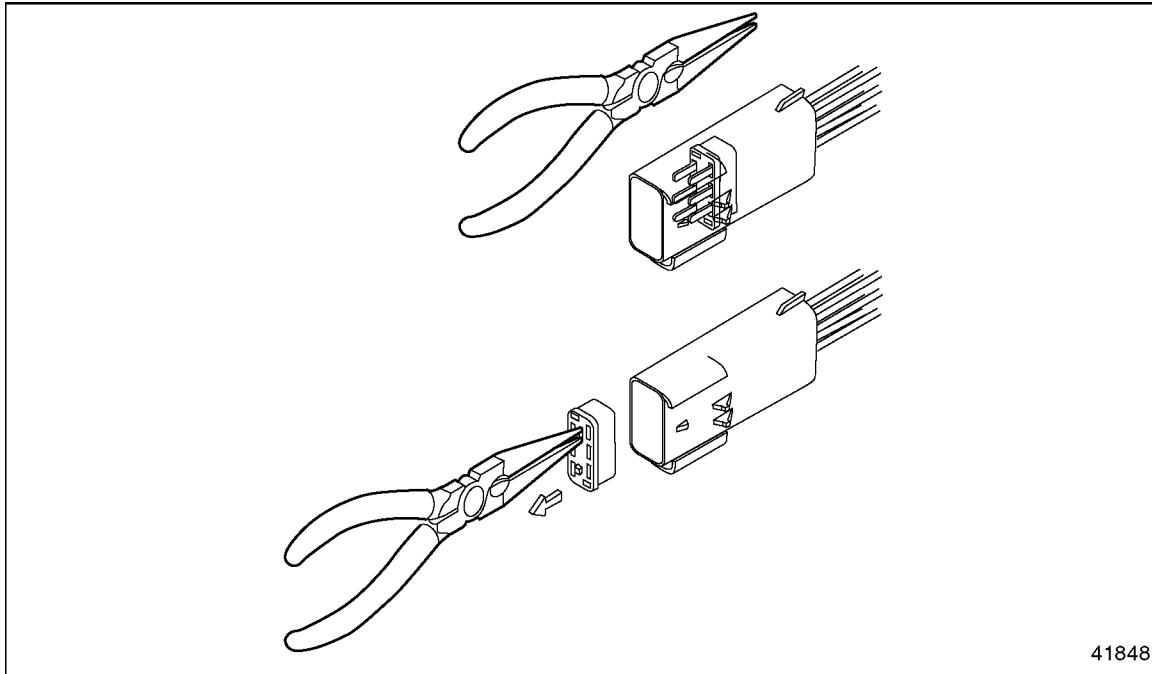

Figure 3-26 **Removing the Terminal**
1. Using pliers pull out the red Terminal Position Assurance (TPA) (see Figure 3-26).
- Pull the cable back through the connector (see Figure 3-26).